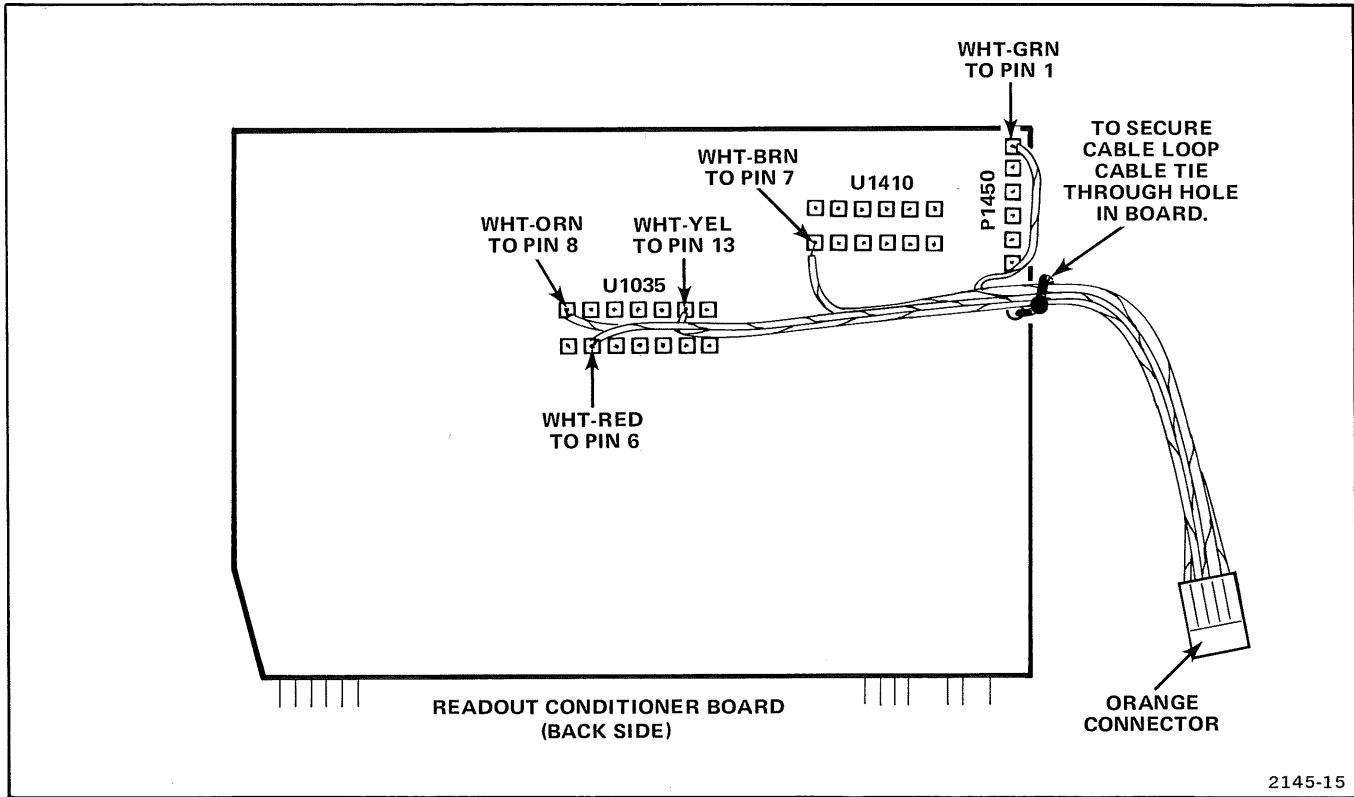

Figure 1-25. Installing 5-wire cable to 414 Option 20 (MOD XA) Readout Conditioner Board.
2. Install 5-wire cable (with orange connector) to Readout board Conditioner Board as shown in Figure 1-25.